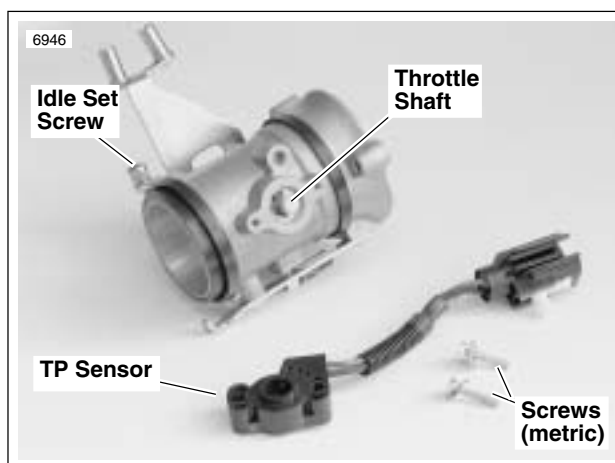

Figure 4-85. Throttle Position Sensor
3. See Figure 4-85. Remove two screws and washers (2) (metric) to detach TP sensor.
1. See Figure 4-85. Attach TP sensor with two screws and washers (2) (metric).